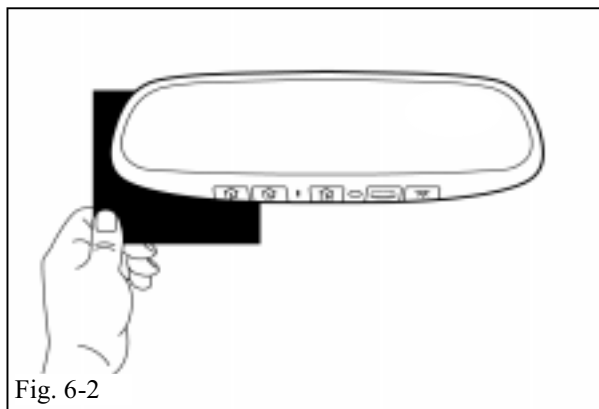

Fig. 6-2
- (3) Cover the forward-looking light sensor located below the wire harness connection of the back of the mirror (a dark cloth or towel will work). (Fig. 6-2)
- (4) In a few seconds, mirror will begin to darken (time may vary with ambient light level).